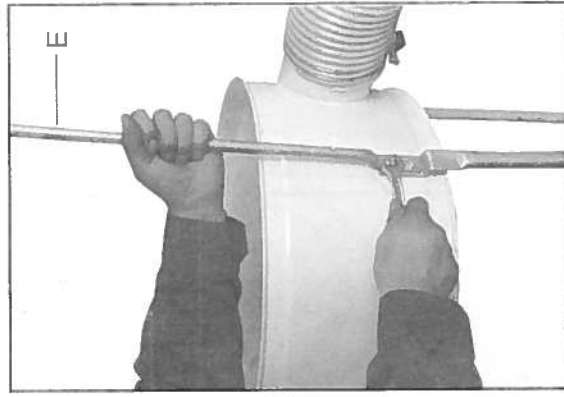

Fig. 7
The upper bag support (E) may now be installed onto the collector as shown in Fig. 7.